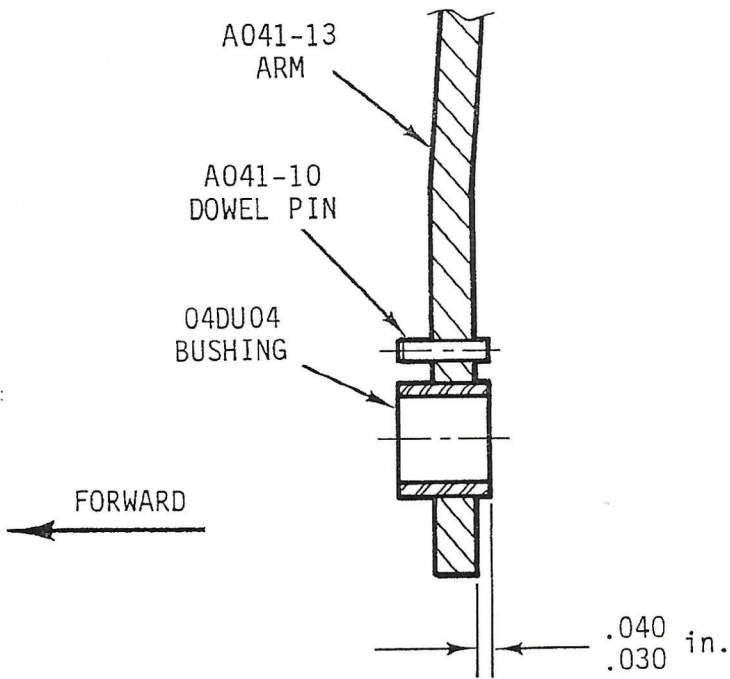

FIGURE 2
4. Install supplied A041-13 arm per MM Section 7.321, replacing worn parts with supplied new parts as required. Ensure bushing and dowel pin meet dimensions shown in Figure 2.